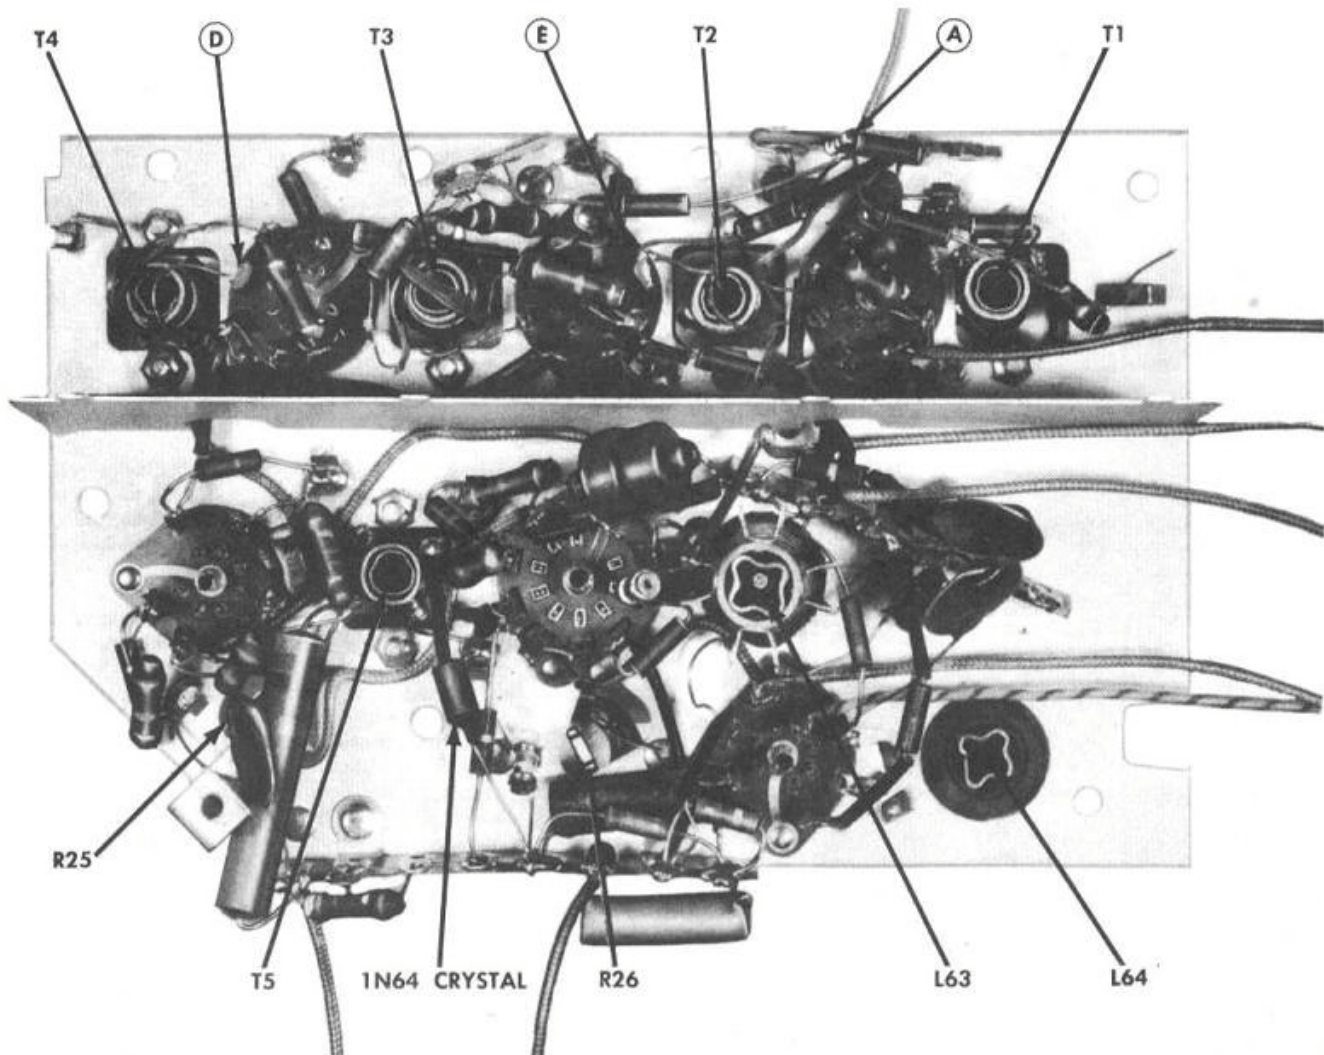

Fig. 33 Video and Sound IF Sub-Chassis.
1. Connect the negative lead of a 3V battery to point "A" (See Fig. 33) and the positive lead to top chassis.
1. Connect the negative lead of a 3 V bias supply to point "A" (See Fig. 33) and the positive lead to chassis. Connect the oscilloscope between terminal "C" and chassis.